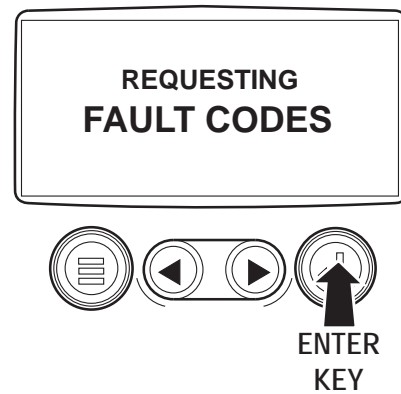

Figure 6 - Access Stored Fault Codes
3. Touch the Enter Key to view any stored fault codes. The display will respond by presenting a REQUESTING FAULT CODES message, while the system retrieves the codes. See Figure 6.